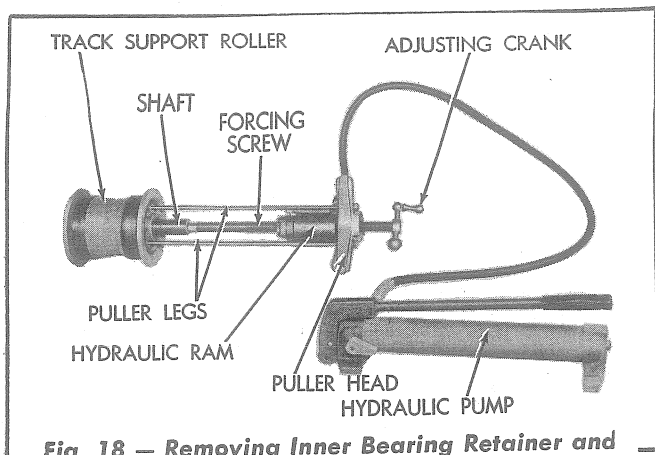

Fig. 18 — Removing Inner Bearing Retainer and Seal Retainer from Track Support Roller
2. Remove the capscrews attaching the inner bearing retainer to the roller. Using special tools similar to the ones shown in Fig. 18, pull the inner bearing retainer and seal retainer assembly from the shaft. Tie the